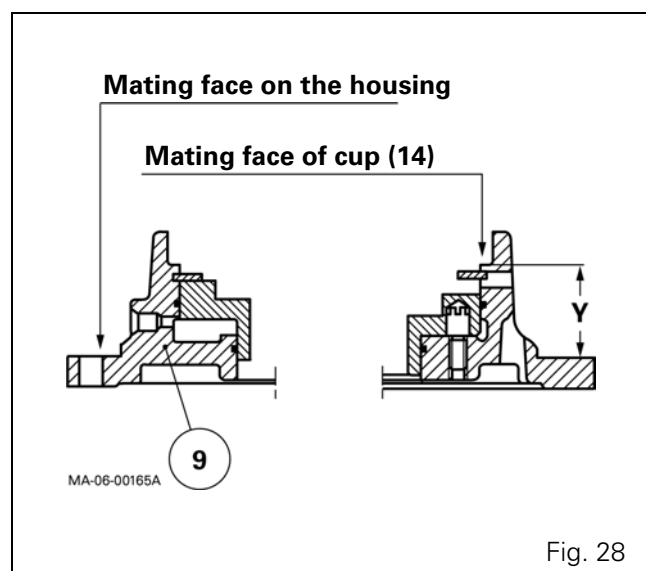

Fig. 28
96. On flange (9), measure dimension "Y" using a depth gauge and a ruler (Fig. 28).
97. Select the thickness "E" of the deflector (13) and shim (49) (if used) (see table) to obtain: